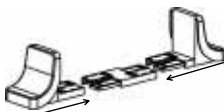

Fig. 5: UPS Feet with Spacer
1. Assemble the two sets of feet with the spacer provided as shown in Figure 5.